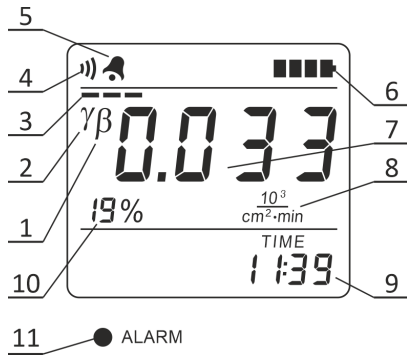

Figure 2.9 – LCD of the radiometer
2.3.3.7.8 When measuring characteristics of beta radiation intensity, the LCD of the radiometer displays the following information (Figure 2.9):
- the estimated limit of statistical deviations (10) of the measurement result (7);
- “β” symbol (1) - an indication of the measured radiation type;
- “γ” symbol (2) - is displayed if measurement takes place without subtraction of gamma radiation component;
- instantaneous value indicator (3);
- sound symbol (4) (if sound signaling of detected gamma quanta and beta particles is switched on);
- alarm clock symbol (5) (if the alarm clock is on);
- battery status symbol (6);
- measurement result (7);
- dimension of measurement result (8) $10^3/(\text{cm}^2 \cdot \text{min})$, cps or faded away, if the dimension is Bq/cm^2 ;
- current time (9).
If surface activity measurement is carried out in Bq/cm^2 , then “Act” characters are periodically displayed on the LCD of the radiometer and the dimension of the measurement result goes blank (8) (Figure 2.9).